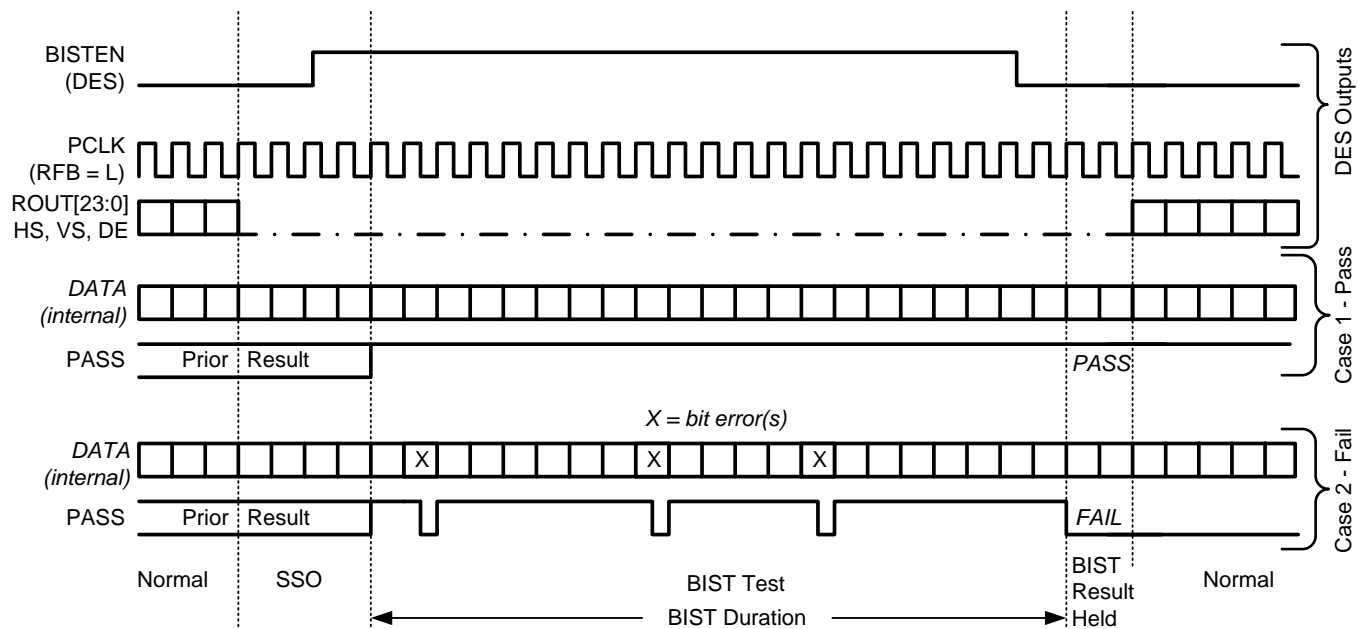

Figure 17. Bist Waveforms
Step 4: The Link returns to normal operation after the deserializer BISTEN pin is low. Figure 17 shows the waveform diagram of a typical BIST test for two cases. Case 1 is error free, and Case 2 shows one with multiple errors. In most cases it is difficult to generate errors due to the robustness of the link (differential data transmission etc.), thus they may be introduced by greatly extending the cable length, faulting the interconnect, reducing signal condition enhancements (Rx Equalization).